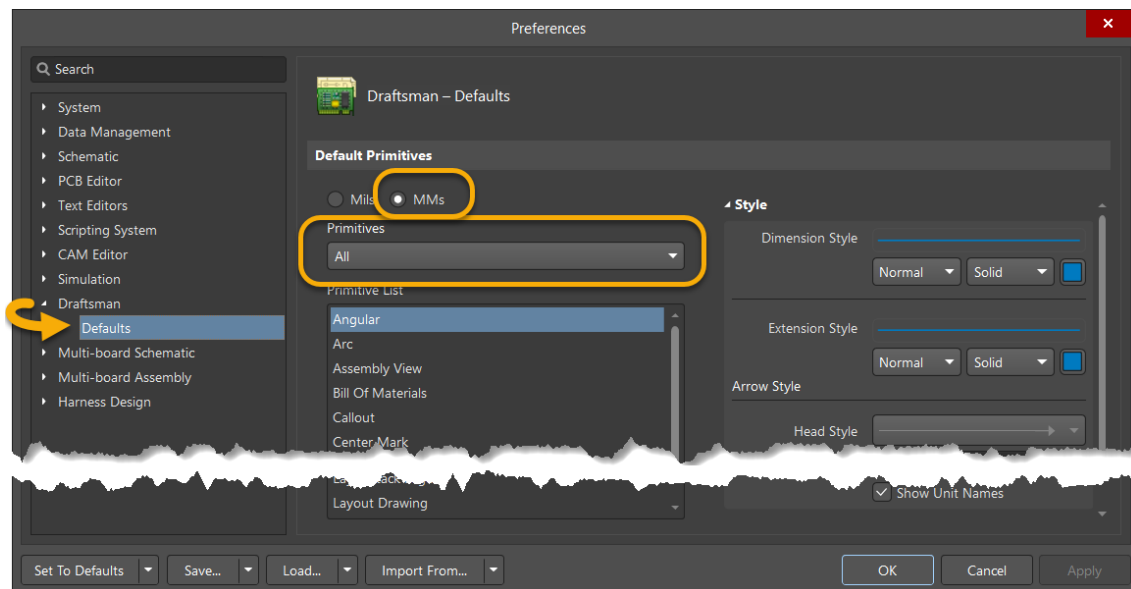

Figure 1. Draftsman Preferences - Default Primitive Drop Down menu
- The *Primitives* drop down menu provides a means of navigating to the various groups of primitives available for changing, as shown in Figure 1.